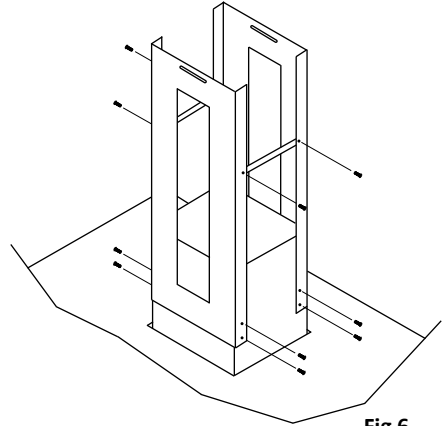

Fig 6
4. Attach the chimney sleeve to the extractor (Fig 6).